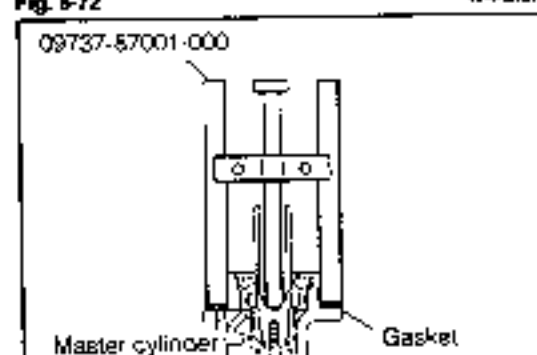

Fig. 8-73
- (1) Set the SST in such a way that the SST rod makes a light contact with the piston of the master cylinder as indicated in Fig. 8-73.